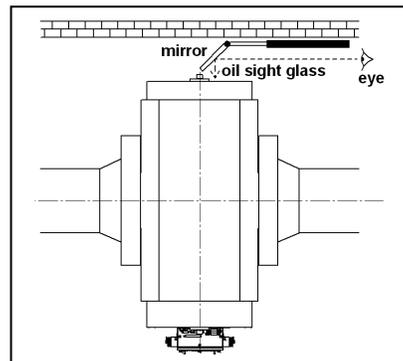

Figure 4: Filling IRM-3 DUO on rear side with mirror
- In a number of cases oil injection can be simplified by slipping the enclosed tube over the nipple, especially when the meter is near a wall. If necessary, use in this case a mirror to detect the oil level. (see Figure 4).